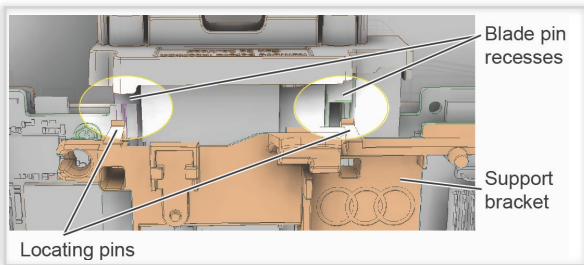

Figure 1: Align pins with the Airmax recesses
1. Move the support bracket (part A) into the blade so that the locating pins on the bracket align with the two blade pin recesses. See Figure 1.